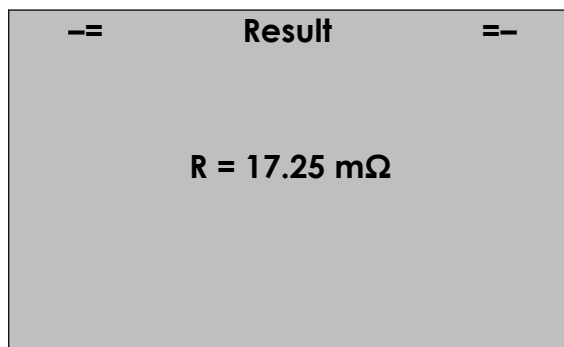

Figure 3.23
3.8.4 After the end of measuring, internal resistance value will be displayed in «**Result**» window (Figure 3.23).